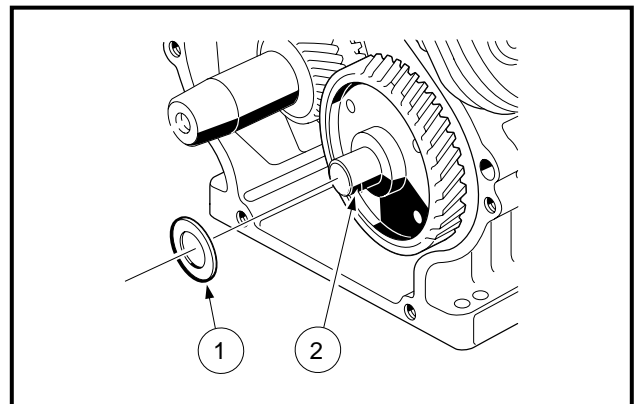

Figure 13-104 Shim Installation on Camshaft
- Install the shim (1) on the camshaft (2) (Figure 13-104, Page 13-46).